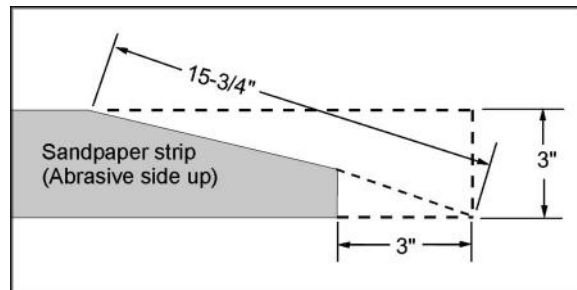

Figure 10
1. Mark and cut a taper at one end of the roll as shown in Figure 10. Because the tapered end should use all of the left (outboard) slot width, its end must be trimmed back as shown.
6. Remove the abrasive strip from the drum, and cut a taper as was done with the starting edge (see Figure 10). **Note:** The taper on the remaining roll can be used as the taper for the starting edge of the next strip to be cut.